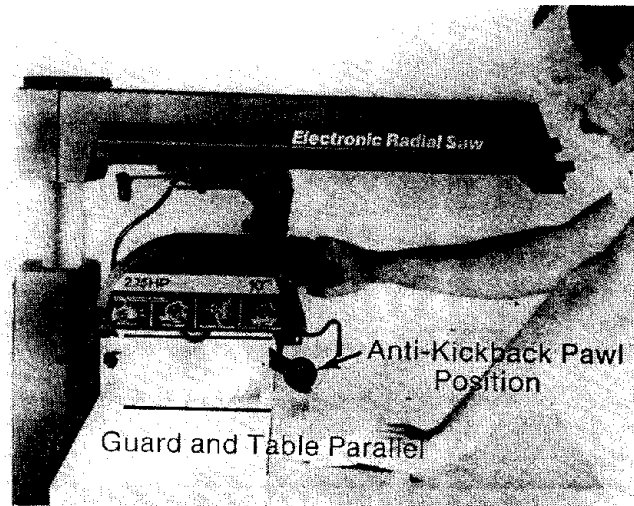

Fig. 144 - Crosscut Blade Guard and Body Position
**WARNING:** To reduce the risk of contact with the upper half of the blade and keep the workpiece from jamming in the guard, set the blade guard in the horizontal position, Fig. 144.
⚠ WARNING: The blade guard must be horizontal to provide protection from contact with the upper half of the blade and avoid the workpiece being jammed in the blade. Set the blade guard in the horizontal position. Fig. 144.